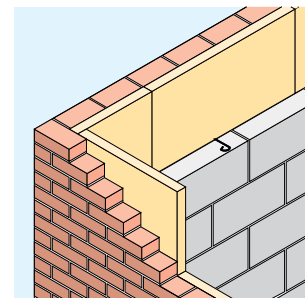

Figure 5
12. Fit the batts closely around wall openings. Slit the batts neatly where additional wall ties occur. Do not impale or tear them. At corner joints, edges must be cut accurately to ensure close butting (see Figure 5).